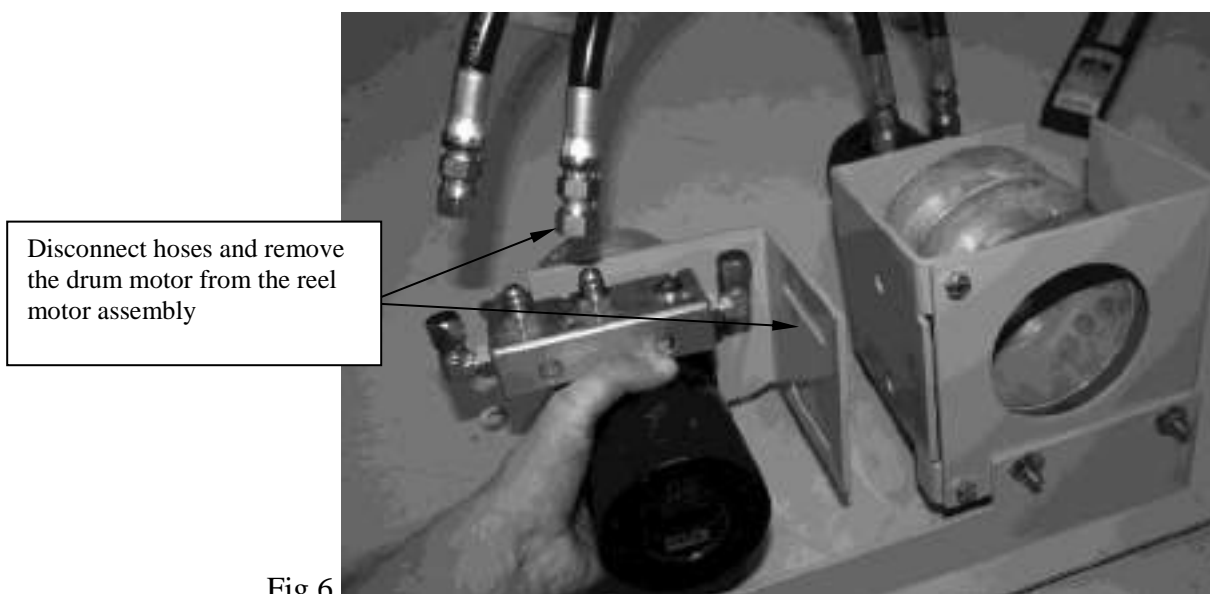

Fig 6
3. The cover reel and drum motor assembly will be attached to the front left corner of the pool, but first needs to be temporarily disassembled. Disconnect the two short hoses that are connecting the reel motor to the drum motor manifold. Then unthread the two mounting bolts that connect the drum motor assembly to the reel motor assembly. (Fig 6)